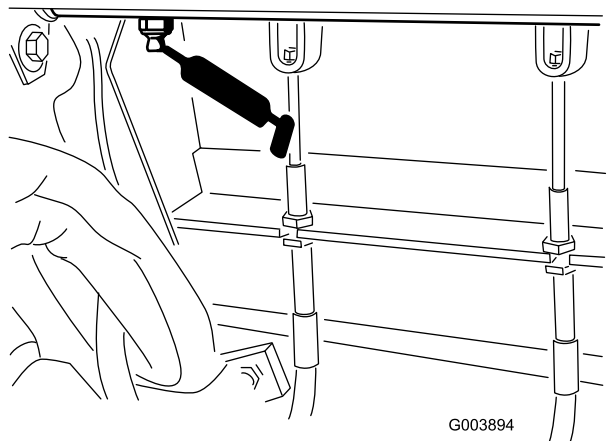

Figure 47
- 1 fitting on the brake pedal (Figure 47)